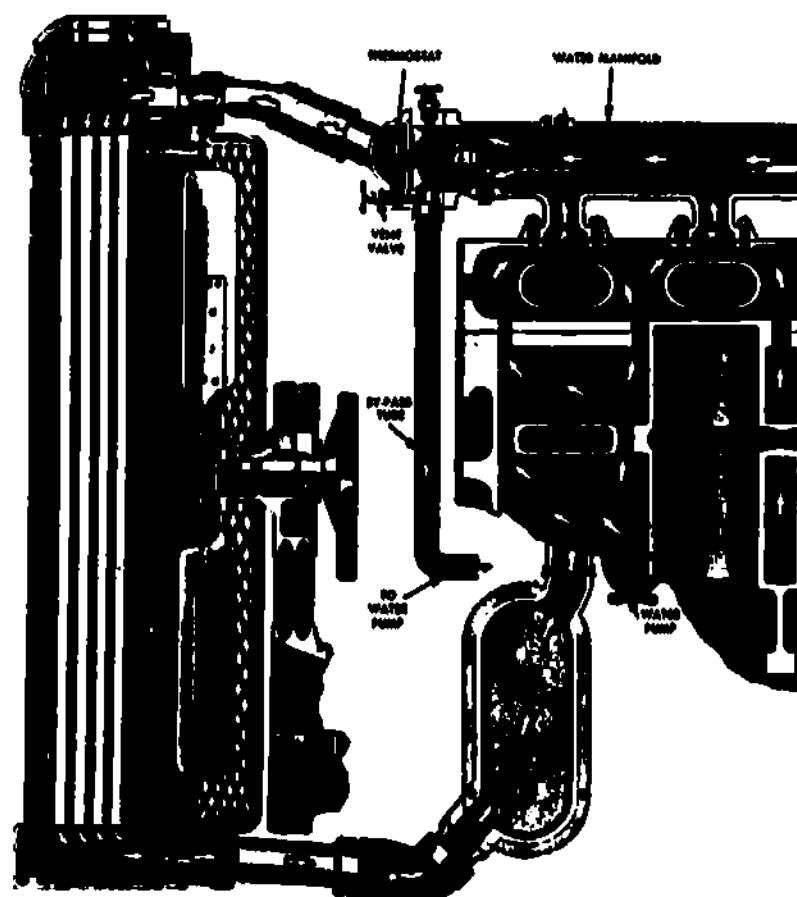

Fig 2-11, Typical cooling system with radiator and fan.
(2) Repairs to systems.
- (a) Cooling system. The Detroit diesel cooling system used in Marine Corps engineer equipment is a radiator and fan-type liquid-cooling system. It consists of a radiator, fan, water pump, oil cooler, thermostat, and necessary hoses and pipes. The thermostat is probably the most troublesome part of the system (fig 2-11). It becomes inoperative and requires replacement more frequently than any of the other parts. To replace it, drain the system and remove the upper radiator hose and thermostat housing water outlet. Remove the thermostat, inspect it, and check its operation. It is checked by immersing in hot water; the thermostat should start to open at about 175° F and be fully open at about 185° F, depending on the thermostat setting. The opening